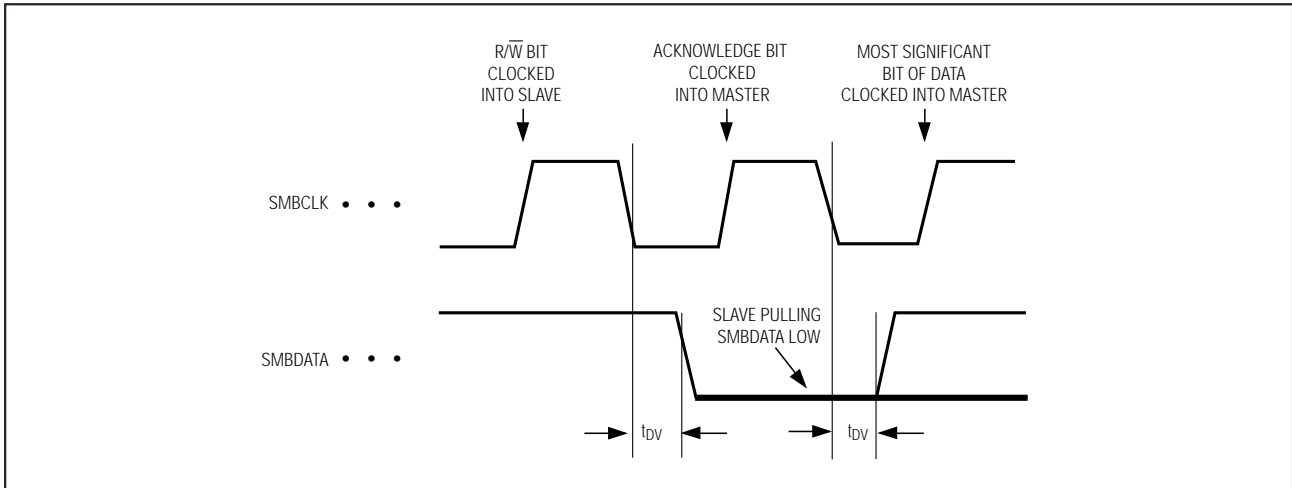

Figure 3. SMB Serial-Interface Timing—Acknowledge and Data Valid
**Note 6:** Refer to Figure 3 for the acknowledge timing diagram and tDV parameter definition.